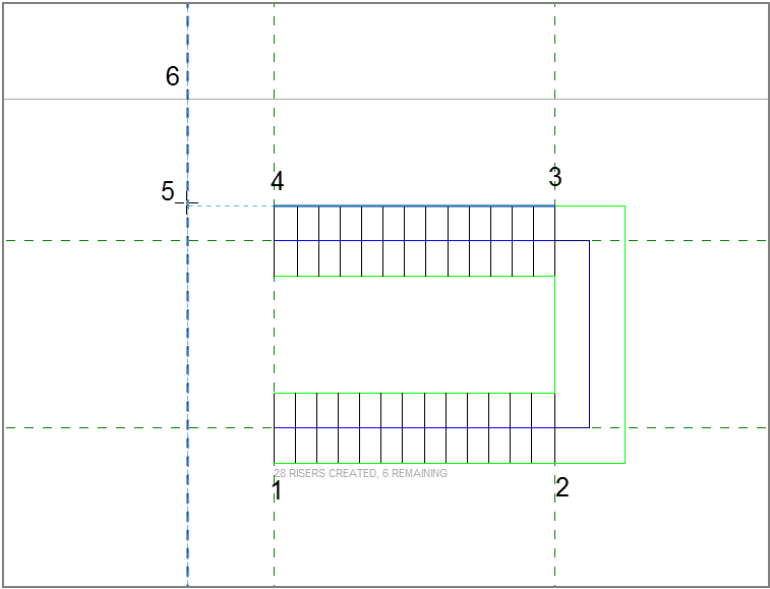

FIGURE 10.65: The stairs in place
7. Verify that your plan looks like Figure 10.65.